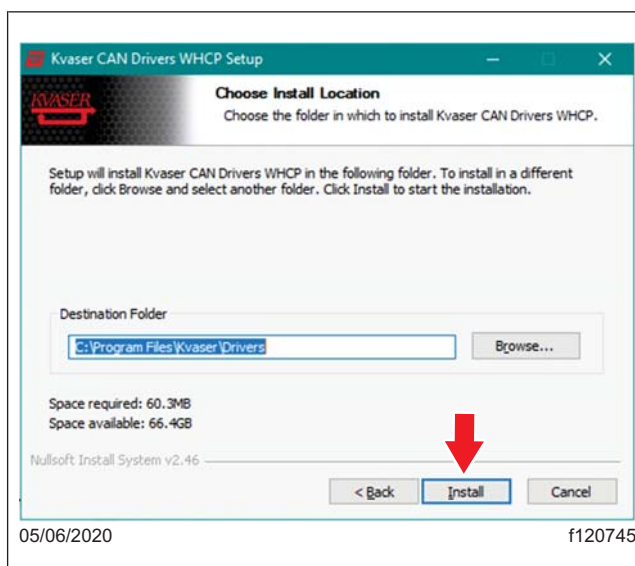

Fig. 12, Choose Install Location Window
15. A window will open to choose the install location. Allow it to install in the default directory or the application may not work correctly. Select 'Install.' See Fig. 12.